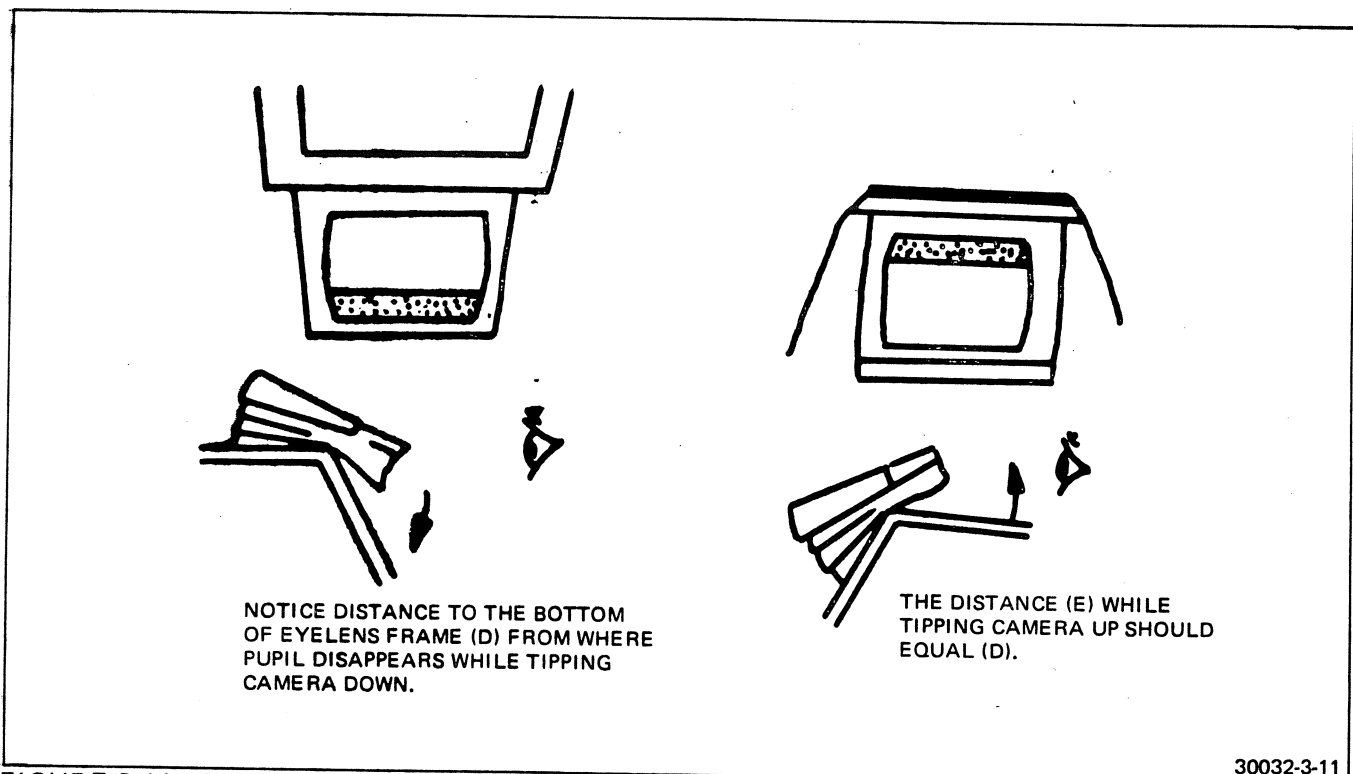

FIGURE 3-11 CHECKING DISAPPEARANCE OF EXIT PUPIL
- b. Rotate the camera at arm's length so the pupil gets higher and then lower. See Figure 3-11. The pupil should disappear in the eyelens at